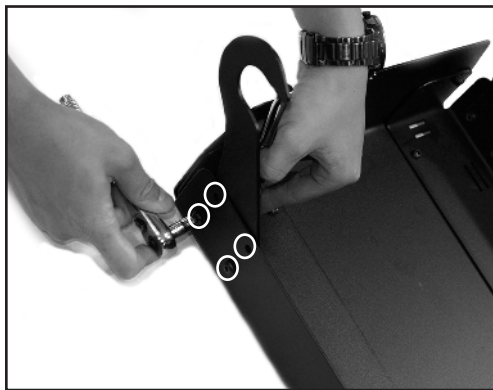

Fig. 120
1. Remove the height adjustment hardware (circled in Fig. 120 & 121) with 5/32" Allen wrench and 7/16" wrench. Fig. 120 & 121